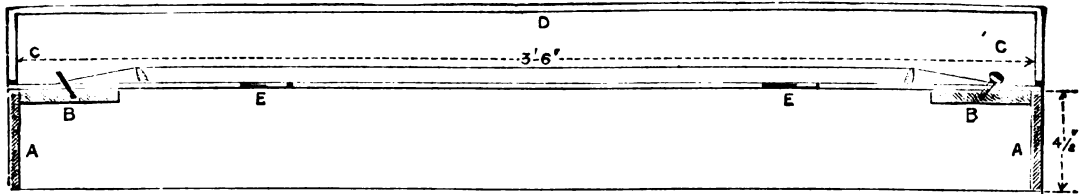
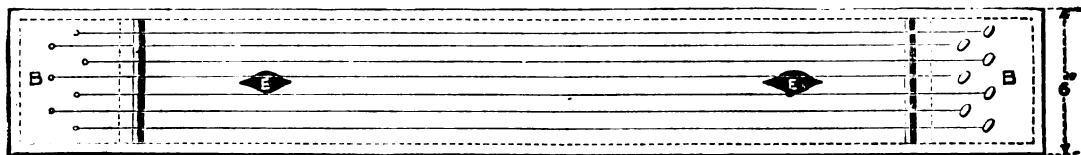

Fig. 1
Fig. 2
**Eolian Harp.**—In the illustrations, Fig. 1 represents a vertical section and Fig. 2 a plan of an Eolian harp. Fig. 3 shows the method of fixing the side to the block. First construct the body of the instrument. For this a piece of sound deal  $\frac{1}{2}$  in. thick, 8 ft. long, and  $\frac{1}{4}$  in. wide will be required. This must be planed, and have its edges truly squared. Cut it into two pieces 3 ft. 6 in. long, and two 6 in. long; carefully dovetail the ends of all these pieces to form the sides and ends of a box. For the top and bottom, take a sound piece of  $\frac{1}{2}$  in. or  $\frac{1}{4}$  in. deal, planed up and glass-papered, 7 ft. long by 6 in. wide, and cut it into two equal pieces 3 ft. 6 in. long. In one piece, which is to form the top or soundboard of
the instrument, at 1 ft. from each end, and in the centre longitudinally, cut a hole E (Figs. 1 and 2) about 2 in. in diameter. To strengthen this board for the reception of the pins and screws to which the strings are attached, two blocks will be required. For these take two pieces of beech or other hard wood, 1 in. thick, 5 in. by  $\frac{1}{2}$  in. Finish these quite smooth, and attach them to the soundboard on what will be the under side, at  $\frac{1}{2}$  in. from each end and side as shown at B (Fig. 1). They can be fastened with glue and screws from underneath. This board may now be laid on the framework; the blocks, if properly fitted, will just drop in, and in order to withstand the strain to which they will be subjected, may be further strengthened by two small screws on each side passing through the sides of the box into them (see Fig. 3). The top is fastened to the sides and ends by means of glue and small screws fixed round the edges. The other piece of thin board is now to be fastened to the bottom of the box in a similar manner, and the body of the instrument is complete. Seven iron pegs, the same as used for holding the strings in a piano, and a like number of violin pegs will be required. Bore seven holes in each end of the soundboard into the blocks in the position shown at B (Fig. 2); these should be bored in a diagonal direction, as indicated at C (Fig. 1). See that the pegs fit tightly in the holes, the iron pegs at one end, the wooden ones at the other. Now cut two pieces
sound. As the effect is much enhanced by directing the current of wind over the strings, two pieces of  $\frac{1}{2}$  in. deal, 6 in. by 3 in., and a piece of board similar in size to that used for the bottom of the instrument, must be glued on one of the small pieces across the edge at each end of the board. This will stand over the face of the instrument as shown in the unhatched portion in Fig. 1. The instrument should be placed on the window-ledge, and the window closed down on top of it at D (Fig. 1).